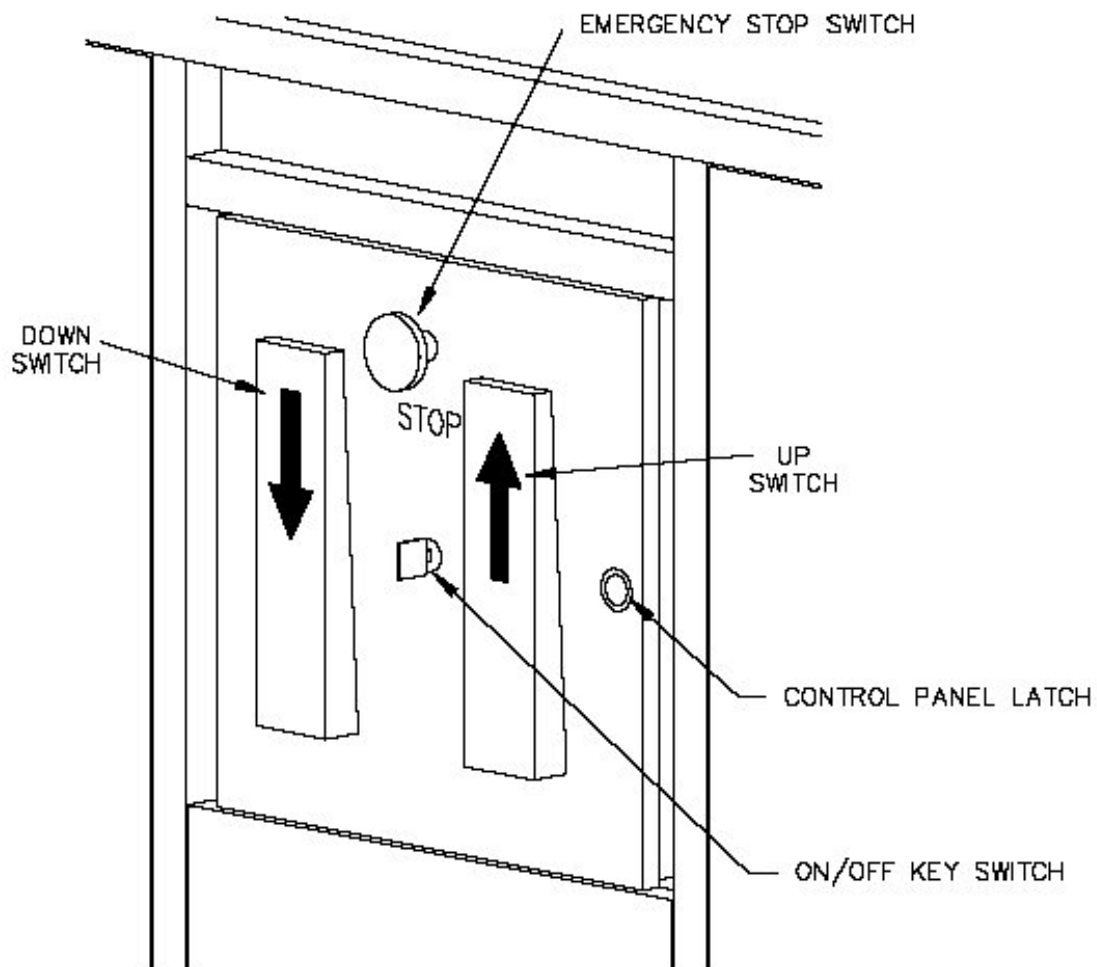

Figure 1. Location of UP, DOWN, and STOP controls.
- To raise or lower the carriage press either the UP or DOWN paddle (See Figure 1) and maintain continuous pressure on the paddle until the lift stops automatically at the landing.
If you need to stop the lift before it reaches the landing, simply release the UP or DOWN paddle and the carriage will stop immediately. You can also stop the lift by pressing the red STOP button (See Figure 1). To release, simply pull out the button.